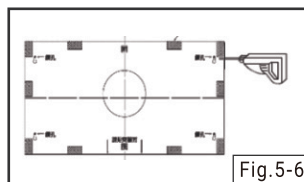

Fig.5-6
1. Attach the installation paper template onto the bottom plate of cabinet (texts side face down). Drill holes according to the marks. (Fig. 5-6)